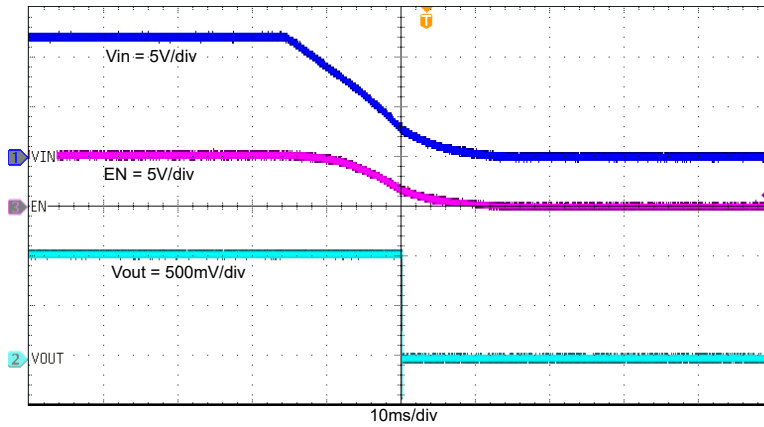

**Figure 4-11. TPS563252EVM Start-Up Relative to EN**
Figure 4-11 shows the TPS563252EVM start-up waveform relative to enable (EN). The load is 3 A.